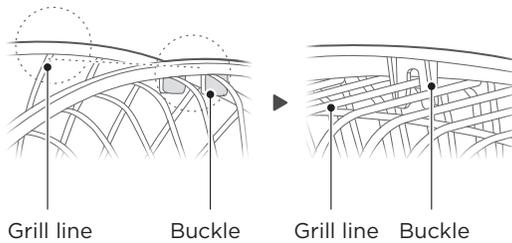

Fig.8
**4** Align the front grill buckle with the top line of the rear grill from top to bottom, after aligning, look at the schematic from the back.(Fig. 8)